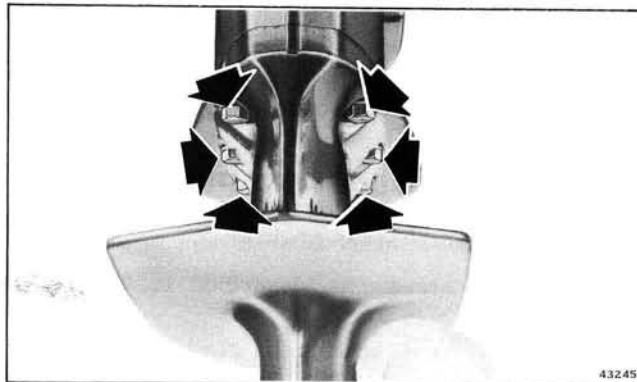

Figure 6-3. Gearcase Attaching Screws (Six)
- Remove 6 screws attaching gearcase to exhaust housing or gearcase extension if used. See Figure 6-3.